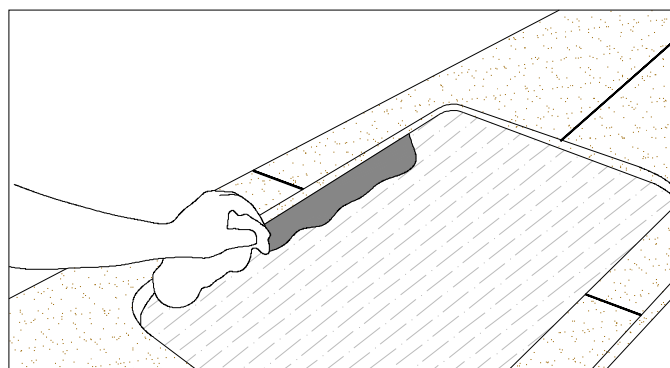

Figure 4C
- Also clean the area of the laminate where the sink or sink ring will be bonded. (FIG. 4C)